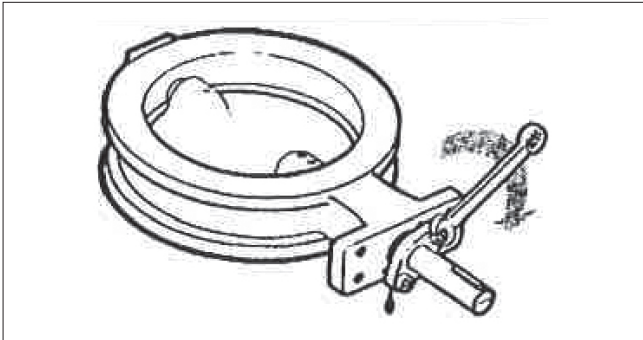

Figure 9.
Numbers in () refer to items shown in figures 9, 11, and 12.
Routine maintenance consists of periodically tightening down the compression plate (9) to compensate for shaft seal wear (See Figure 9). The gland, however, should not be tightened down too tight, since this will shorten the life of the seals. More extensive maintenance such as seat, seal and bearing replacement is described below.